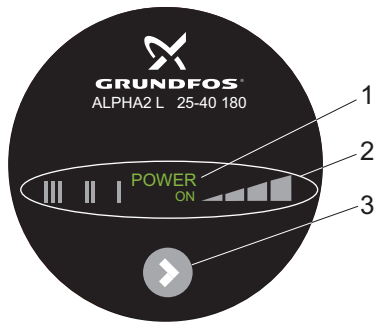

Fig. 10 GRUNDFOS ALPHA2 L operating panel
The "POWER ON" light field (fig. 10, pos. 2) is on when the power supply has been switched on.
The pump has seven optional settings which can be selected with the push-button. See fig. 10, pos. 3.
Every time the push-button (fig. 10, pos. 3) is pressed, the pump setting is changed.